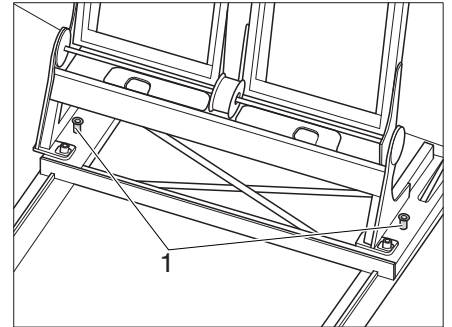

Fig. 11 Locking bolt
- Pull the locking bolt (Fig. 11, 1) upwards.